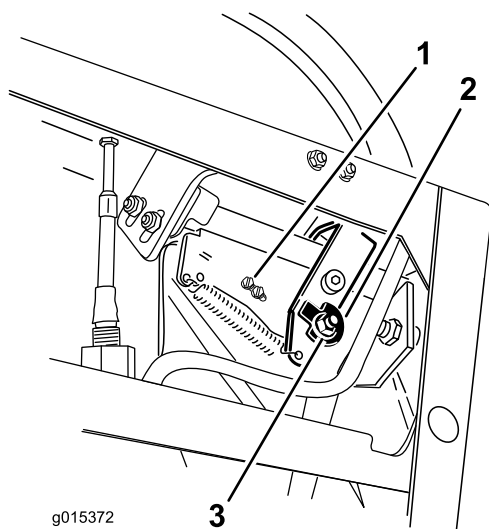
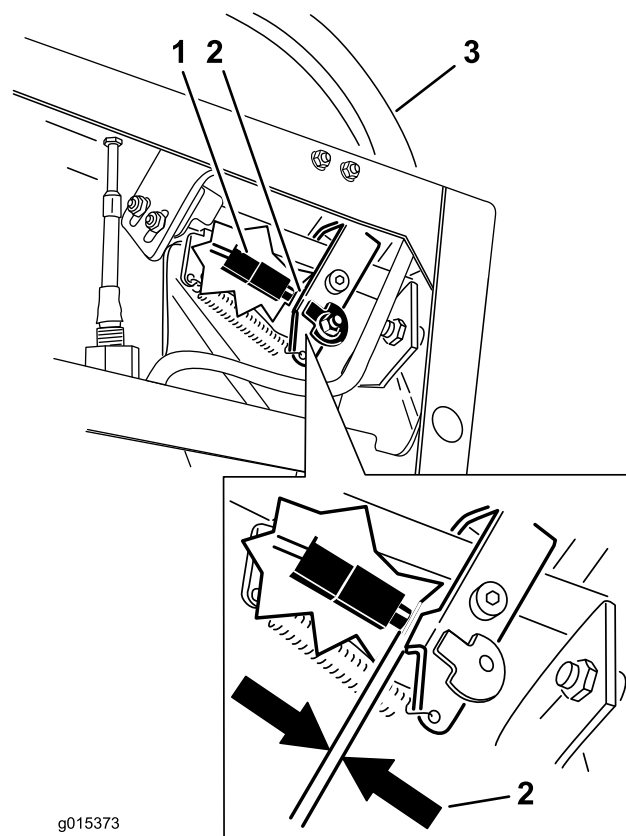

Figure 76
Figure 77
2. Loosen the nut and bolt holding the cam (Figure 76).
1. Check the gap between the control lever and switch as shown in Figure 77. The gap needs to be an 3 mm (1/8 inch) with the right motion control lever in the neutral, unlocked position.
2. If needed, loosen the screws holding the switch and adjust the switch (Figure 76 and Figure 77).